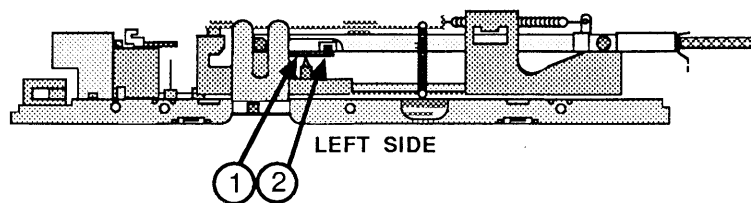

FIGURE 8
7. Locate the small arm with a cylindrical cog at its end. This arm is located near the left-to-right center of the drive mechanism (Figure 8, #1). The cog will be caught in the half-moon depression of the disk case.
8. Insert a small screwdriver at the position shown in Figure 8, #2, and gently move the arm away from the disk until the disk pops forward slightly. Remove the disk from the disk drive.